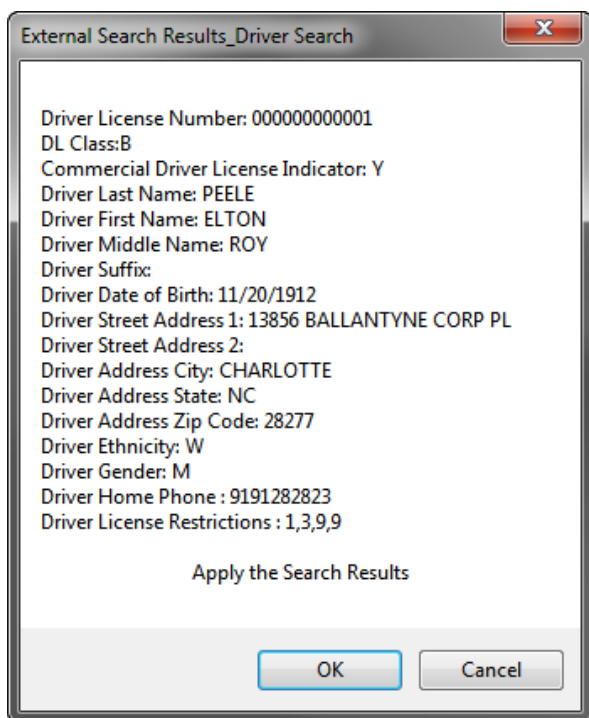

Figure 38. Search by Driver's License Results Example
4. Enter the NC driver's license number and click **Search Driver** on the databar. If a match exists, the results display, as shown in Figure 38.